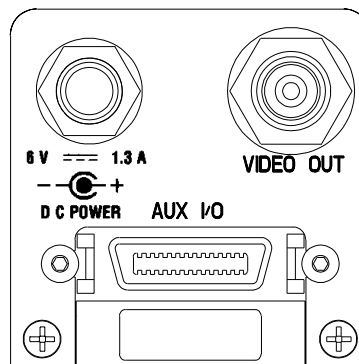

Figure 1. Alpha Back Panel
3. Connect the **VIDEO OUT** port on the back of your camera to an unterminated monitor input using the RCA-RCA cable provided. The Alpha will not work with a terminated monitor. See Figure 1 below.